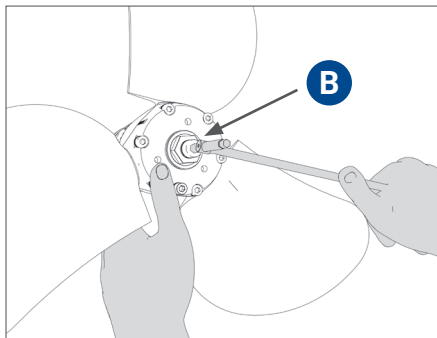

FIG. 5 | Safety bolt (Sail-Drive) tightening
- A safety bolt with special anti-unscrewing washer is provided **B** that must be screwed in after tightening the nut **A** (**Fig. 5**).